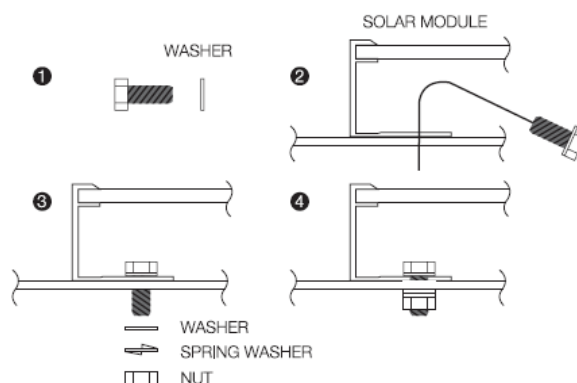

Figure 1. Mounting using bolts.
- The module must be attached and supported by at least four bolts M6 or M8 (depending on the situation) through the indicated mounting holes (Figure 1).